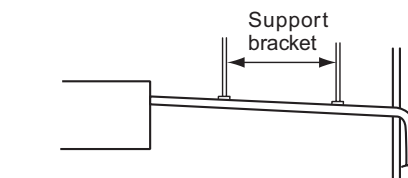

Fig. 2-50
- Do not apply force to the piping on the unit side when connecting the drain pipe. The pipe should not be allowed to hang unsupported from its connection to the unit. Fasten the pipe to a wall, frame, or other support as close to the unit as possible. (Fig. 2-50)